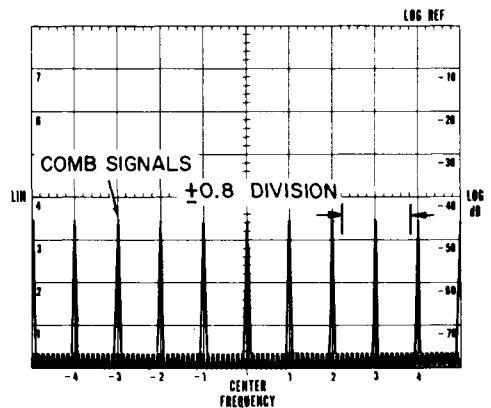

Figure 4-10. Scan Width Accuracy Measurement
- With control settings as in step 1 above, a comb signal occurs every 100 MHz on the display (see Figure 4-10). Tune FREQUENCY and FINE TUNE to line up a comb signal with the far left graticule line.